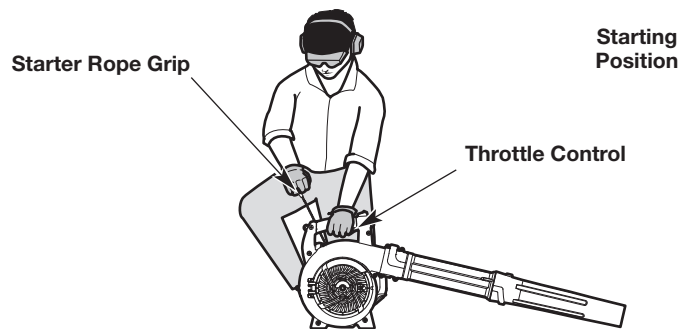

Fig. 12
WARNING: Avoid accidentally starting the unit. To avoid serious injury, the operator and the unit must be in a stable position when pulling the starter rope (Fig. 12).
3. Crouch in the starting position (Fig. 12).
5. Pull the starter rope with a controlled and steady motion **5 times** (Fig. 12).